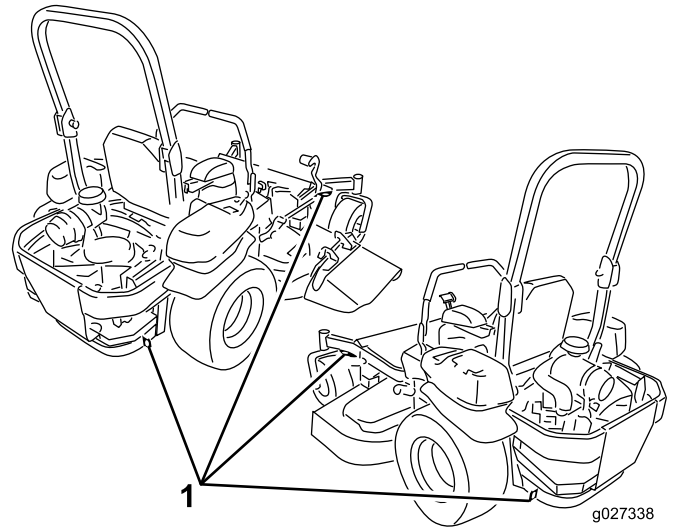

Figure 36
5. Use the tie-down loops on the machine to securely fasten it to the trailer or truck with straps, chains, cable, or ropes (Figure 36).